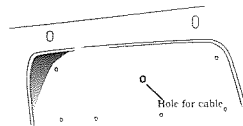

Fig.2
3. With the license plate off, check if there are pre-existing holes through which the cables from the camera can be passed through to the boot of the vehicle as in Fig. 2. If there are no pre-existing holes carefully drill a hole of sufficient diameter to allow the cables to be passed into the interior of the vehicle (through a rubber grommet) and seal the hole with silicone to avoid water leakage.